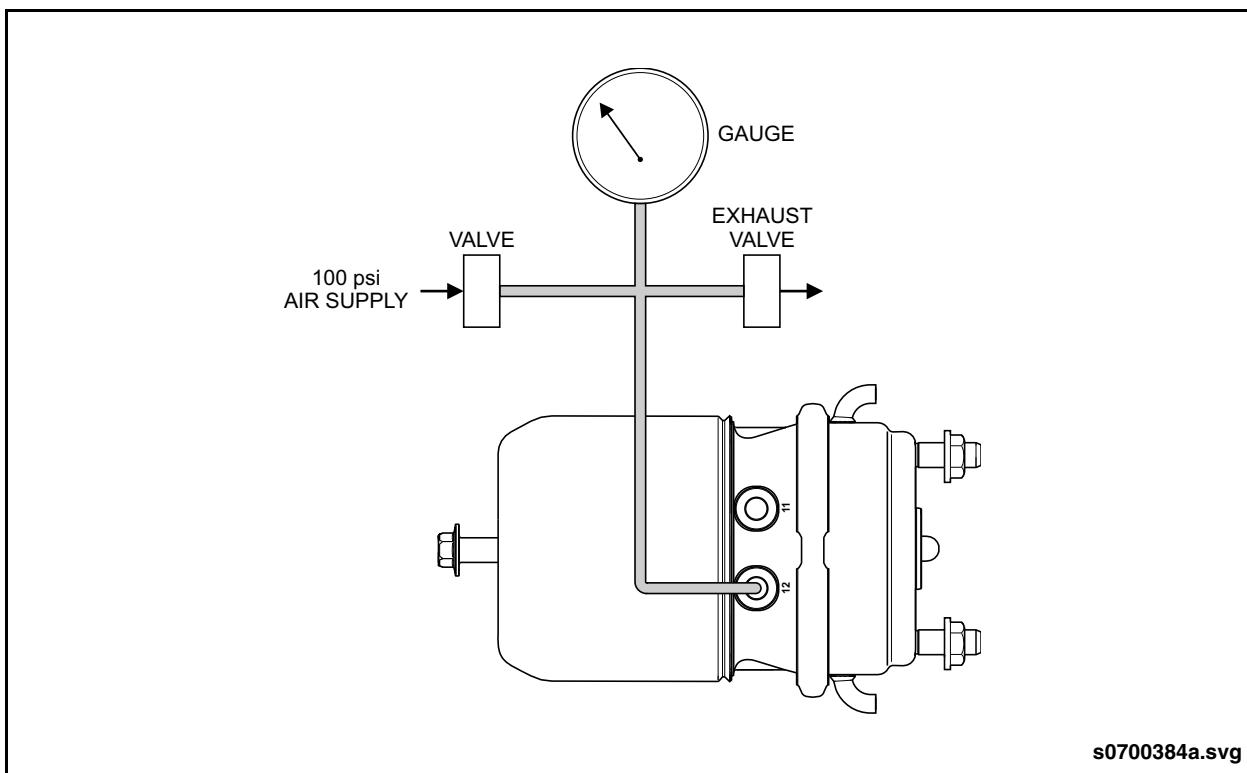

Fig. PM-39: Spring Brake Leak Test Setup
3. Connect pressure test equipment to spring brake chamber port #12. See "Fig. PM-39: Spring Brake Leak Test Setup" on page 82.